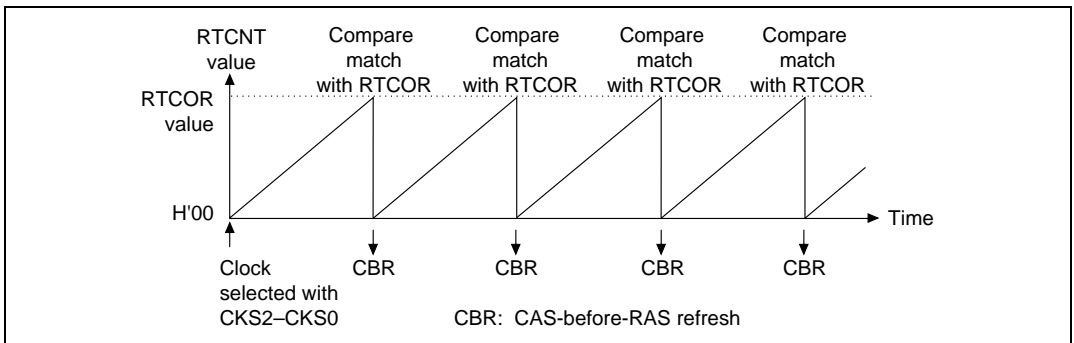
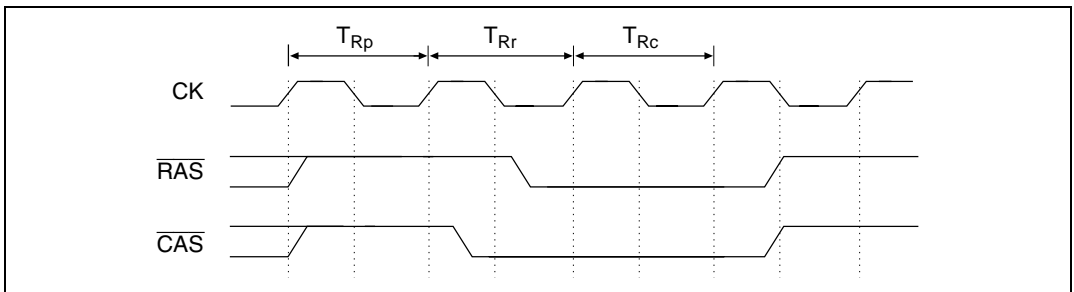

Figure 8.29 Refresh Timer Counter (RTCNT) Operation
Figure 8.30 Output Timing for CAS-Before-RAS Refresh Signal
When the RW1 bit in WCR1 is set to 1 and the read cycle is set to long pitch, the number of wait states selected by the RLW1 and RLW0 bits in RCR will be inserted into the CBR refresh cycle, regardless of the status of the $\overline{\text{WAIT}}$ signal. Figure 8.29 shows RTCNT operation and figure 8.30 shows the timing of the CBR refresh. For details on timing, see sections 20.1.3 (3) and 20.2.3 (3), Bus Timing.